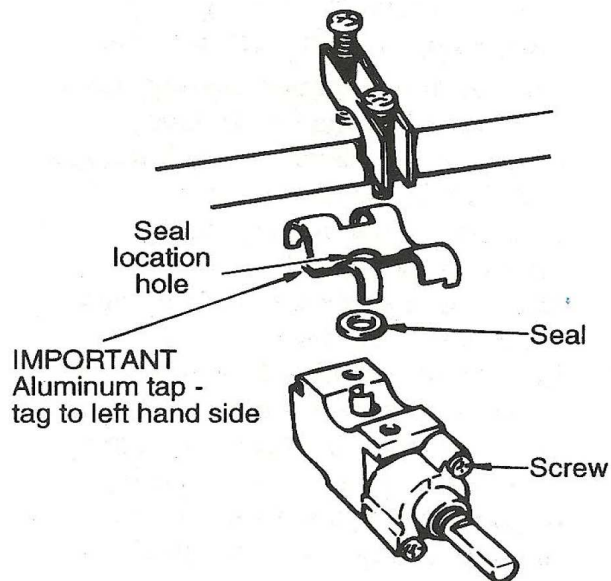

Fig. 17
5. To Change Hotplate or Grill Taps (Fig.17)
Fit new seal and seal retainer to new tap. (Note: Tag on seal retainer to be positioned with tag to left hand side see Fig.17). Hold the tap in position under the gas rail, and insert the front securing screw, enough to engage thread, then rear screw similarly, fully tighten front screw, then rear screw. Replace the injector holder and reassemble in reverse order. Test for gas soundness before refitting the fascia panel, knobs, hotplate top and pan supports.